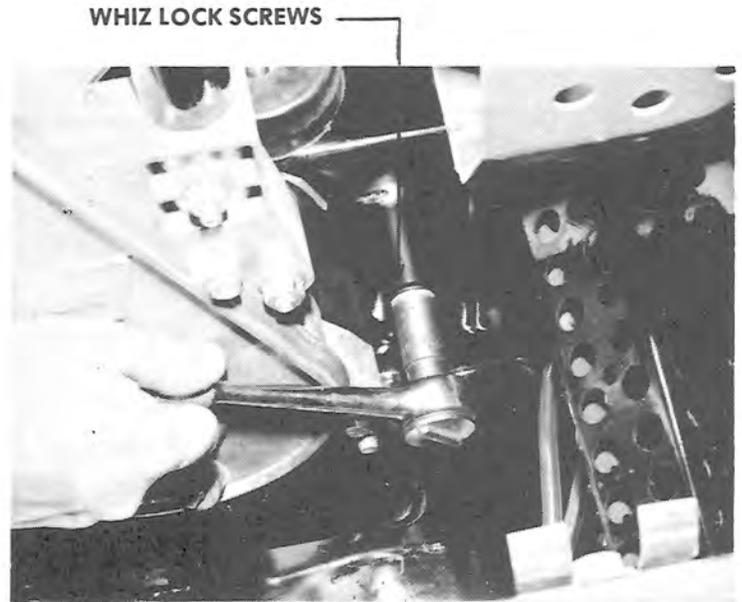

FIG. 5-7
8. Remove the two whiz lock screws located on the side of the tunnel in front of the footrests which secure the front pivot shaft to the tunnel (See Fig. 5-7).